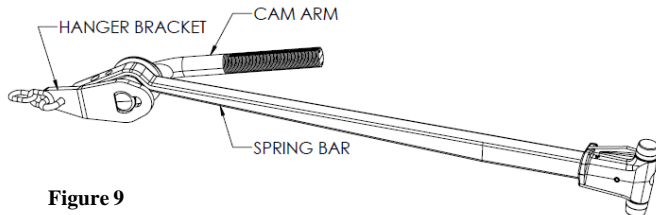
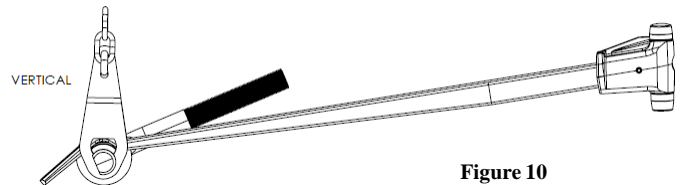

Figure 9
Figure 10
3. Install the Hanger Bracket (with the ends of the u-bolts facing inward) and Chain onto the cam by slipping the keyed slot of the hanger bracket over the button end of the cam arm (figure 9). Rotate Hanger bracket to the vertical position and pull chain vertical to the chain attachment point on the snap-up bracket (Figure 10).